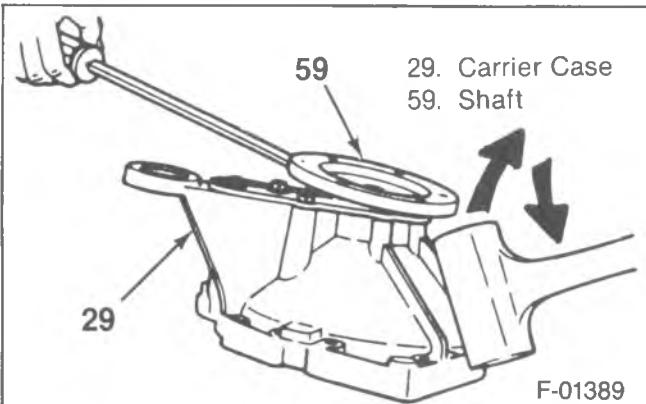
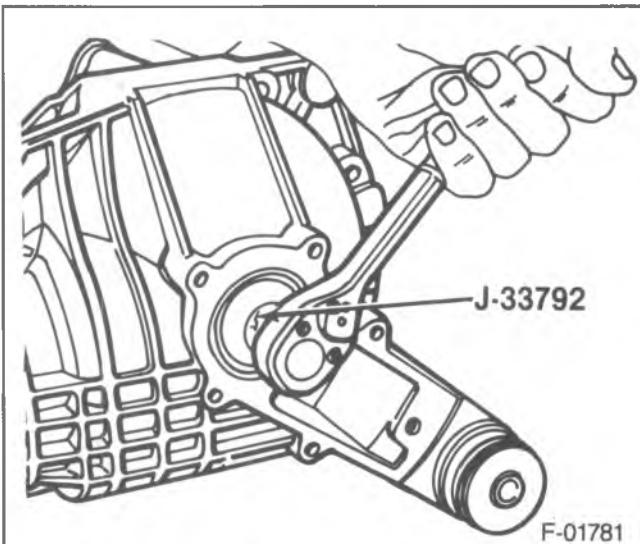
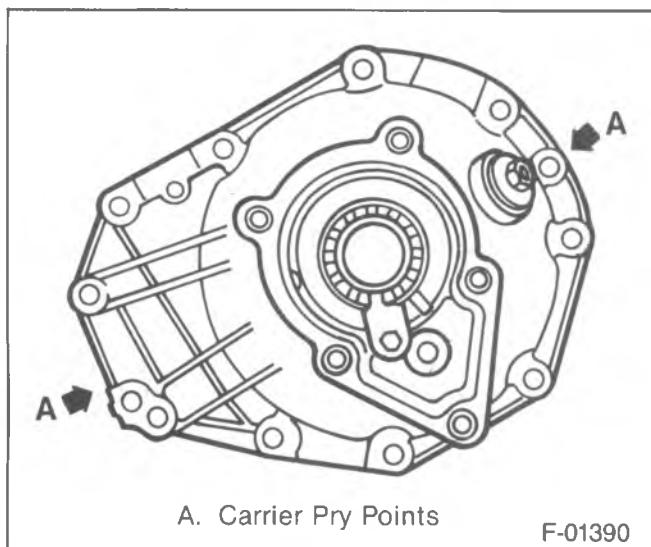
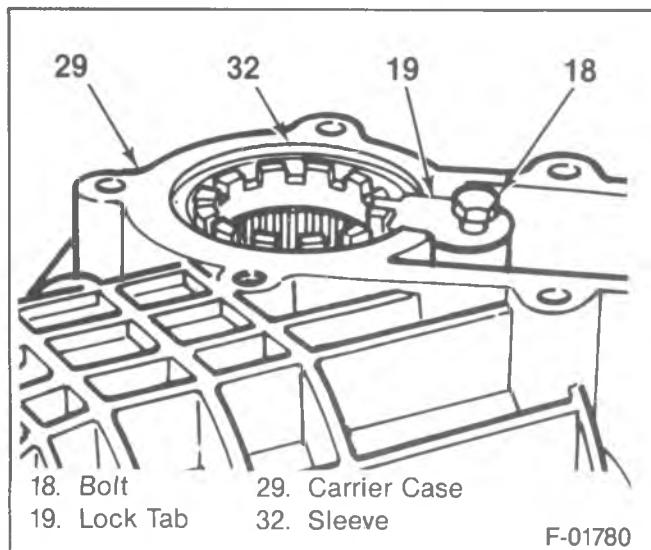

Figure 69—Removing the Axle Shaft
Figure 72—Removing the Bearing Cup
Figure 70—Separating the Carrier Case
Figure 71—Removing the Lock Tabs
4. Carrier connector (9).
5. Seal (3) and bearing (4), using J-29369-2.
6. Seal (15) from the tube (5).
7. Spring (16) and shift shaft and fork (17).
8. Thrust washer (20).
9. Sleeve (22) and output shaft (23).
10. Differential pilot bearing (21) from the output shaft, using J-34011.
11. Washer (24).
12. Shaft (59), and deflector (2).
- Pry with a screwdriver between the shaft flange and carrier head while striking the flange with a soft face hammer (figure 69).
13. Bolts (58) and cover (57).
14. Bolts (28).
15. Separate the carrier case (29).
- Insert a screwdriver into the slots provided and pry to separate the case (figure 70).
16. Differential case (35).
17. Bolt (18) and lock tab (19) from the side bearing adjuster sleeve (32) (figure 71).
18. Bearing cup (33) from the case.
- Turn the adjusting sleeve (32) using J-33792 until the cup is pushed out of the case (figure 72).